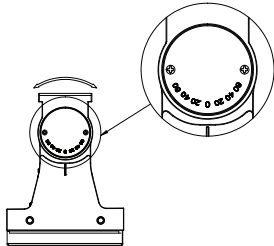
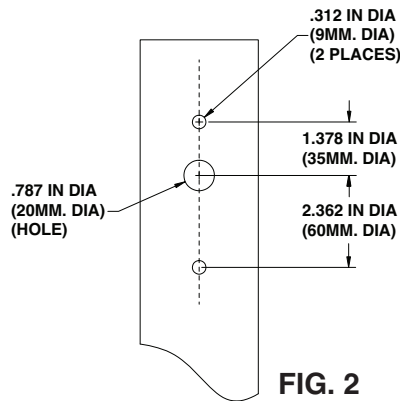
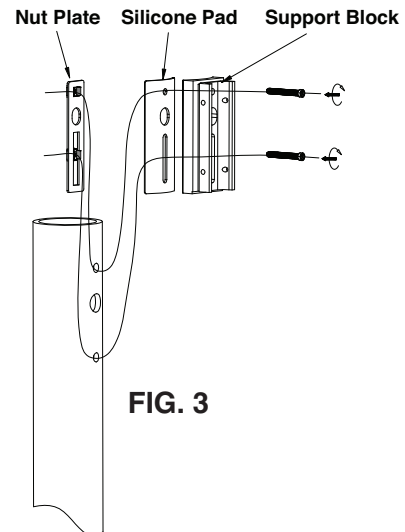

FIG. 1
FIG. 2
FIG. 3
The fixture can be mounted to either a round or square pole with an adapter mounting plate. The mounting plate has a slot pattern that can cover many existing hole patterns. If there is no existing hole pattern or the holes are outside of the slot range, drill holes according to the pattern in **FIG. 1**. Install the mounting plate in accordance with **FIG. 2**.
1. Tighten the nut plate and adapter on the pole (see **FIG. 2**).
2. Insert the fixture onto the adapter (see **FIG. 3**).
The fixture can be mounted to either a round or square pole with an adapter mounting plate. The flexible arm can be aimed 0 to 60° both upward and downward in 20° increments (see **FIG. 1**). The mounting plate has a slot pattern that can cover many existing hole patterns. If there is no existing hole pattern or the holes are outside of the slot range, drill holes according to the pattern in **FIG. 2**. Install the mounting plate in accordance with **FIG. 3**.
1. Tighten the nut plate and adapter on the pole (see **FIG. 3**).